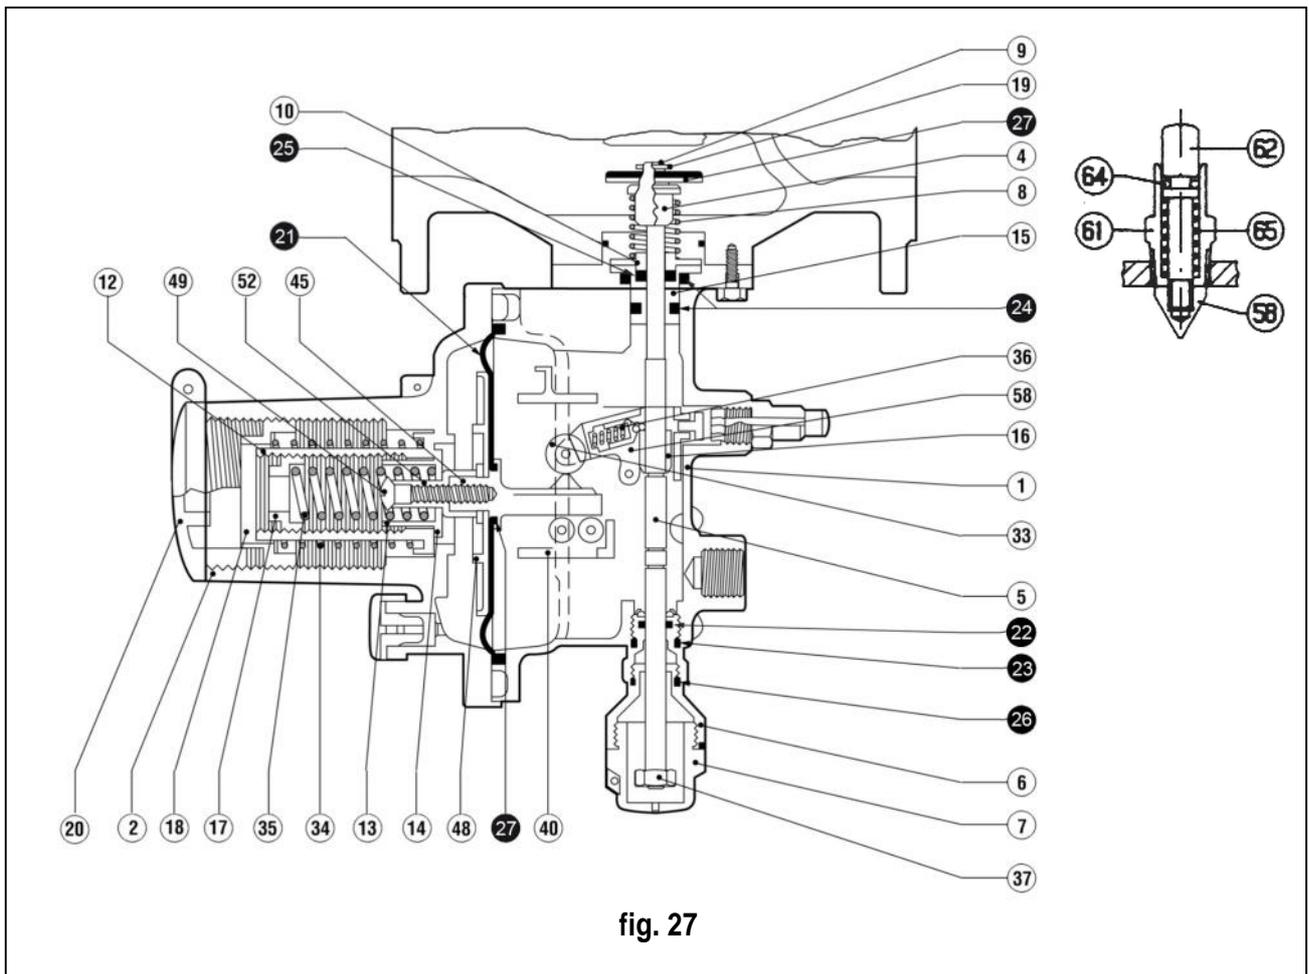

fig. 27
**7.5 LA:: SLAM SHUTH VALVE (fig. 27)**